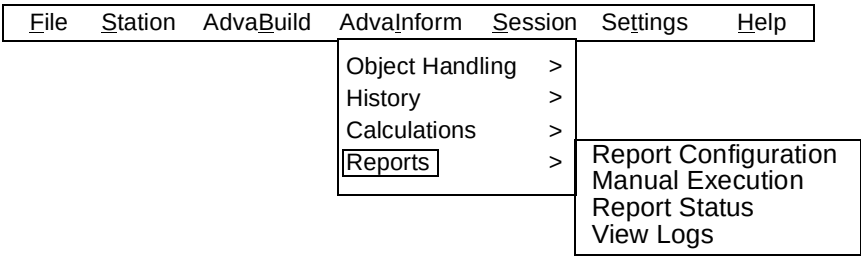

Figure 3-7. Reports Submenu
- 1. Choose **Reports** from the **AdvaInform** menu as described in Section 3.3, Application Start-up. This displays a submenu with Report options, Figure 3-7.